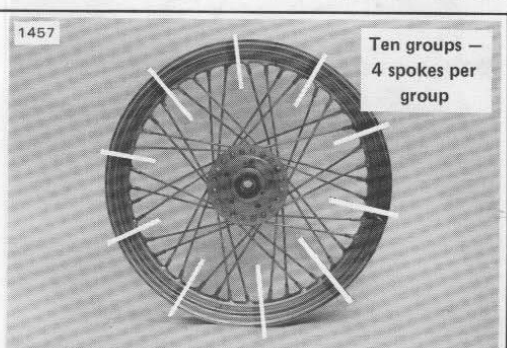

Figure 2-14C. Grouping the Spokes
7. See Figure 2-14C. The rim is divided into ten groups of spoke holes, 4 holes to a group. Each group has two holes on the left and two holes on the right, angled inward towards each other. Only one hole in each group will be angled toward the bottom flange inner spoke (long-head). Lace all bottom flange inner spokes into these holes. Secure each spoke with a nipple screwed on the end about 3 turns.